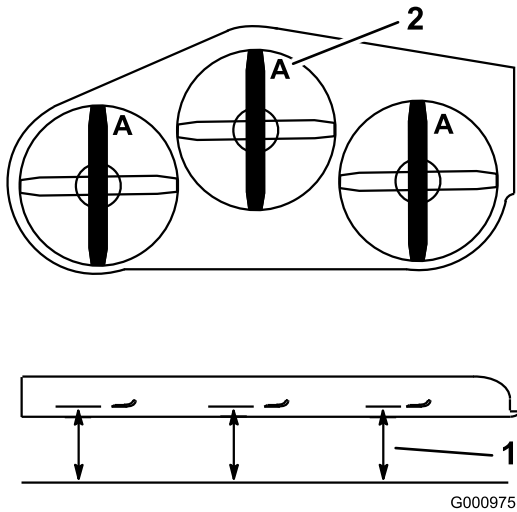

**Figure 91**
- Inspect the cutting edges (Figure 91). If the edges are not sharp or have nicks, remove and sharpen the blades. Refer to Sharpening the Blades.
- Inspect the blades, especially the curved area (Figure 91). If you notice any damage, wear, or a slot forming in this area (Figure 91), immediately install a new blade.